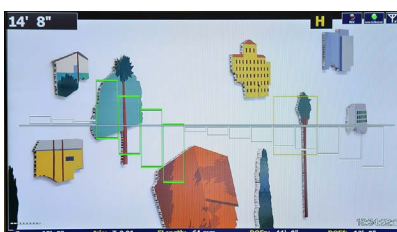

Fig. 15
4. Press the AF button again to "arm" the Hybrid mode. A yellow H appears in the upper right of the monitor (fig 15). It is ready to transition to AF.